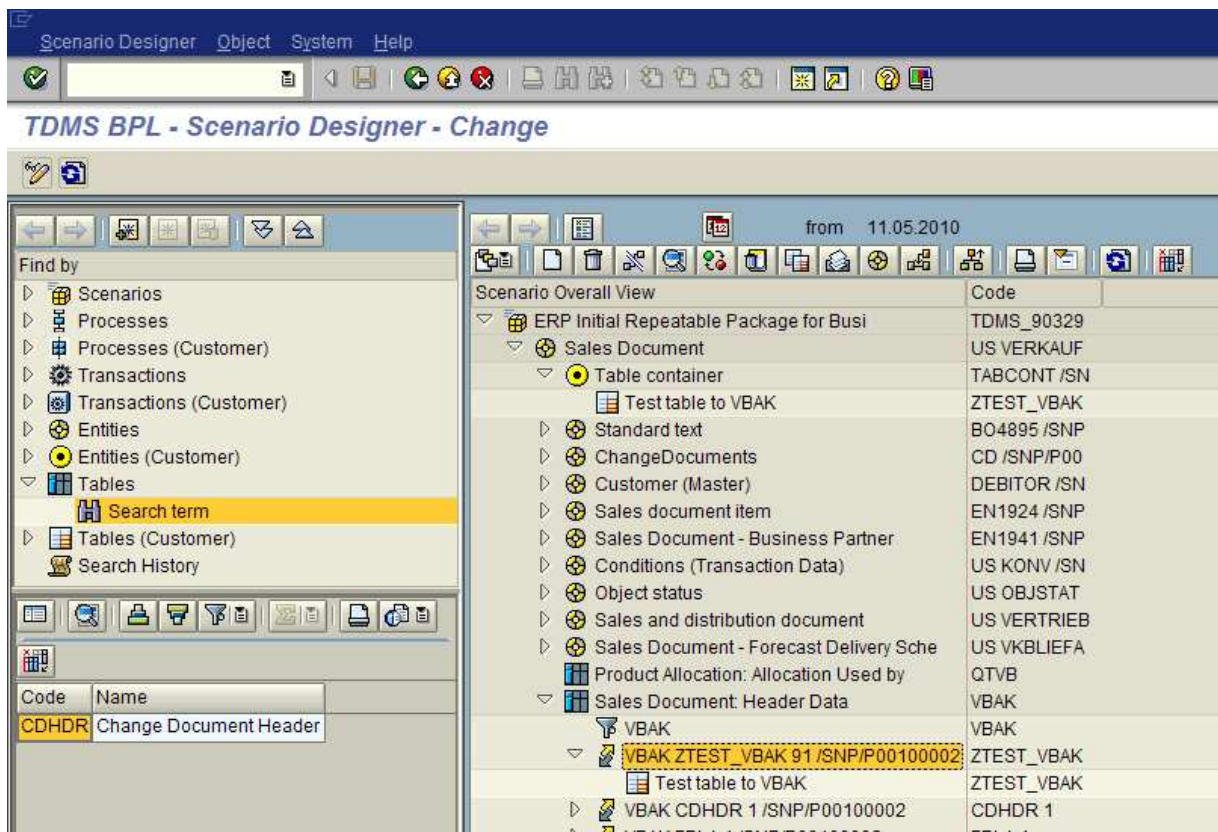

Figure 31: The new table relationship has been assigned to table VBAK
- After confirming your settings, the new table relationship is assigned to table VBAK in overview area (see Figure 31). Clicking the *Show contained tables* icon  you can see that the ZTEST_VBAK table has been included to the scenario (see Figure 32).